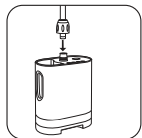

fig.6
3. Insert the pole into the fastening lock, place the pole into the base and turn in a clockwise direction until the pole is securely in place. (fig.6)